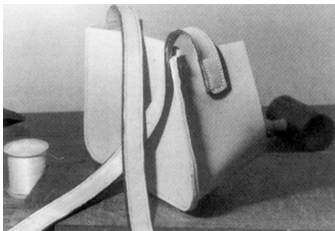

Fig 159 Strap attachment to gusset.
2. Stitch-mark around a four-sided area as shown in Fig 159, at one end of each strap. This is the area to be stitched to the gusset, and the short straight stitch-marked line should be 30mm ($1\frac{3}{16}$ in) from the end of the strap.